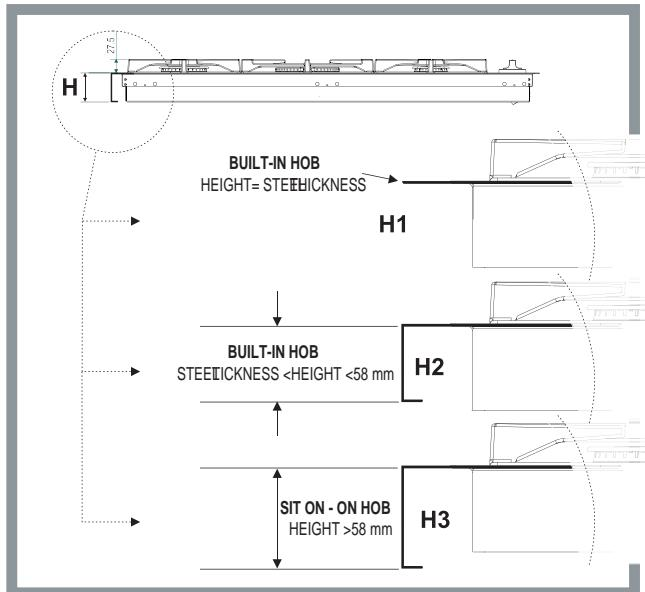
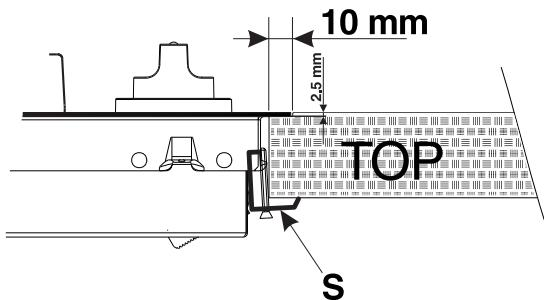
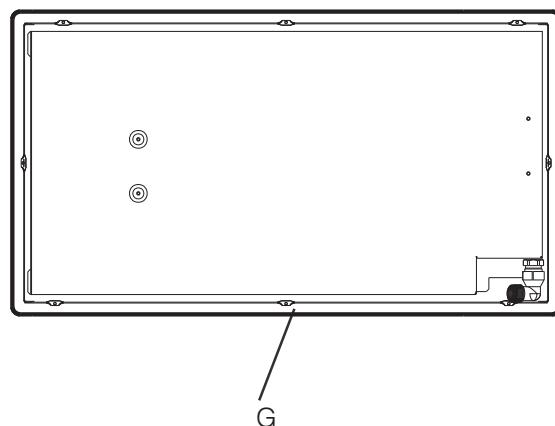
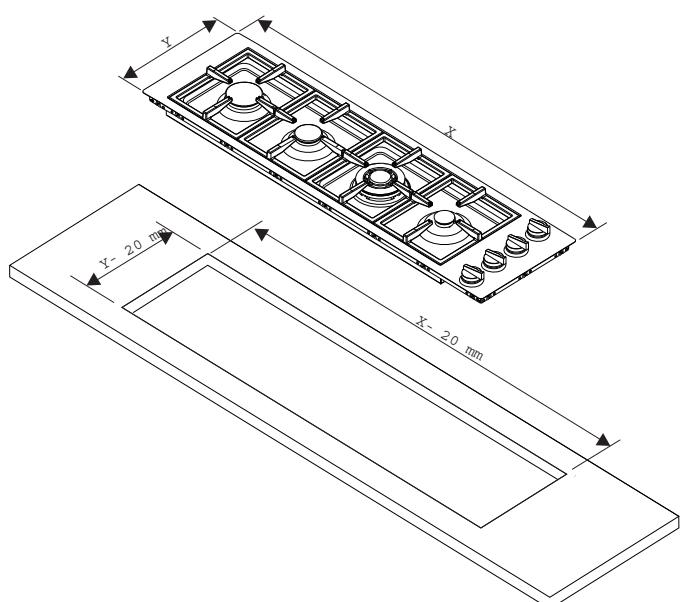

Fig.2
Fig.3a
Fig.3b
Fig. 3c
- 1- Built-in hobs to be slotted in (Class 3 - see figure 2, detail H1). In this case it is necessary to make a hole in the worktop whose measurements match those of the hob. The measurement at the side should be reduced by 2 cm so as to ensure that 1 cm of the perimeter of the hob overlaps with and rests on top of the supporting surface. To slot in the hob flush with the worktop, the cut-out on this supporting surface must be lowered (see figure 3a), so that both the edge of the hob and the seal under it can be positioned there. Before fitting the hob to the worktop, position the seal G provided along the perimeter of the hob, as illustrated in figure 3b. Brackets for fixing hobs to the cabinet have been provided, and these should be fitted as shown in detail S (fig.3a).
- 2- Built-in hobs (Class 3) with edges lower than 58 mm (see figure 2, detail H2)(fig 3c). To install this type of hob, a hole large enough to accommodate the whole lower casing of the appliance must be made on the worktop intended to be under the hob. Remember to leave a gap of at least 1 cm between the lower casing and the worktop around the whole perimeter of the appliance (the underside of the casing can, however, touch the surface below it). To fit the appliances, follow the instructions given above in point 1 or use any supplementary instruction leaflet that is provided in special cases.
- 3- Sit-on hobs (Class 1) with edges higher than 58 mm (see figure 2, detail H3). In this case, the lower